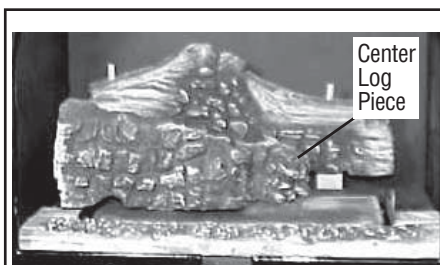

Figure 12
4. Place the center log piece over the corresponding pins next to the front left log as shown in figure 12.